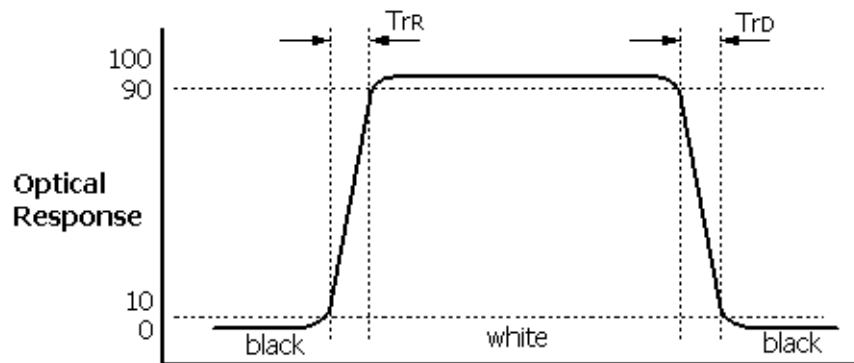

FIG. 3 Response Time
4. Response time is the time required for the display to transition from black to white (Rise Time, TrR) and from white to black (Decay Time, TrD). For additional information see FIG 3.